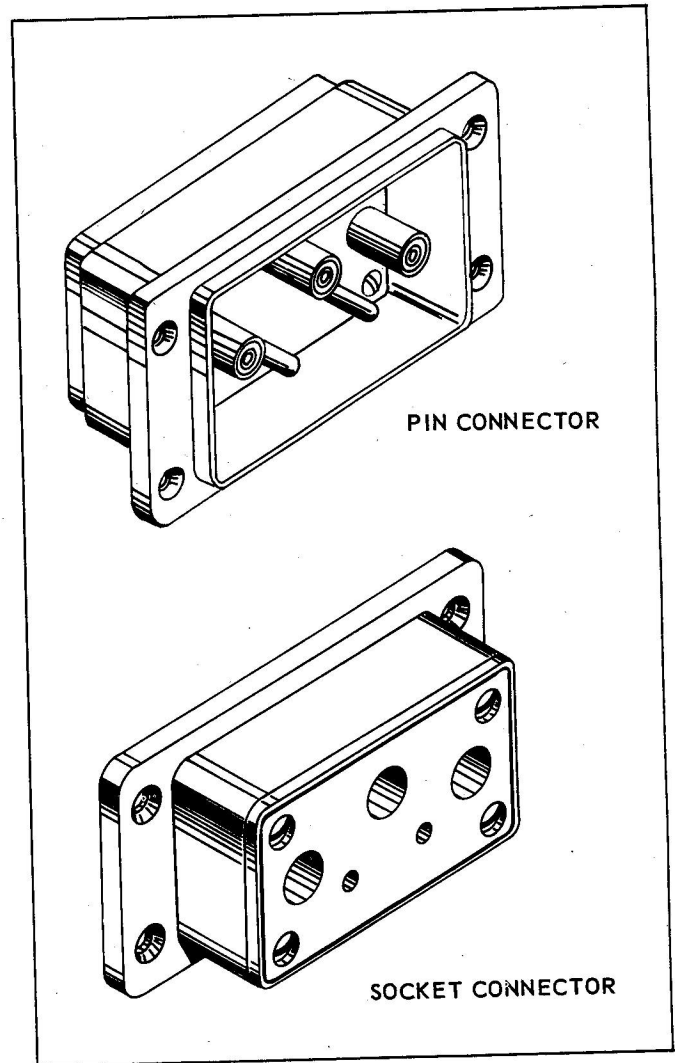

Figure 3-9. Rectangular Shell Connector
b. Rectangular shell connectors (Cannon DPD type). See Figure 3-9. These are flanged for panel or equipment mounting; consist of aluminum alloy shell, rigid or resilient insert and pin and socket contacts. They are usually potted to protect connections against moisture.